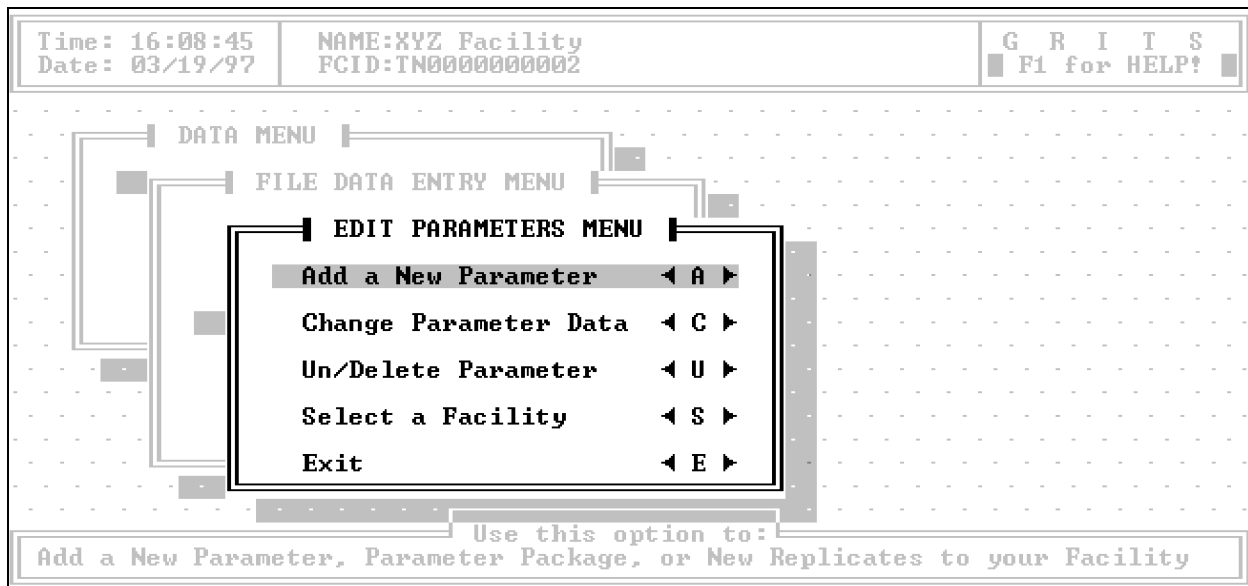

Figure 3-38. The EDIT PARAMETERS MENU.
3. Press the <P> key or use the up and down arrow keys to highlight the Parameter Data Editor of the FILE DATA ENTRY menu and press <Enter>. After a brief countdown the EDIT PARAMETERS MENU shown in Figure 3-38 appears on your screen.